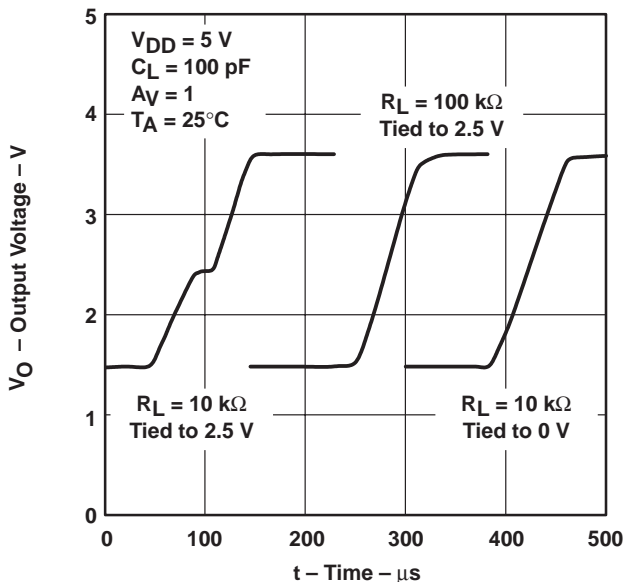

Figure 39
- Where the load is referenced. When the load is referenced to either rail, this condition does not occur. The distortion occurs only when the output signal swings through the point where the load is referenced. Figure 39 illustrates two 10-k $\Omega$  load conditions. The first load condition shows the distortion seen for a 10-k $\Omega$  load tied to 2.5 V. The third load condition shows no distortion for a 10-k $\Omega$  load tied to 0 V.
- Load resistance. As the load resistance increases, the distortion seen on the output decreases. Figure 39 illustrates the difference seen on the output for a 10-k $\Omega$  load and a 100-k $\Omega$  load with both tied to 2.5 V.